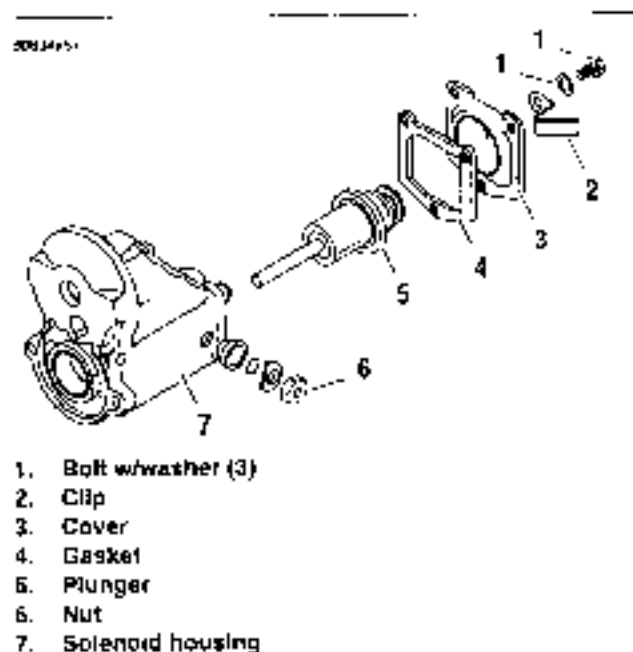

Figure 5-26. Starter Solenoid
See Figure 5-26. Do not tighten nut (6) without removing items 1-5. The contact will move and be destroyed.
1. See Figure 5-26. Remove bolts w/washers (1) and clip (2).
2. Remove cover (3) and gasket (4). Discard gasket.
3. Remove plunger (5) from solenoid housing (7).
1. See Figure 5-26. Replace wire connection hardware as necessary.
2. Apply a light coat of LUBRIPLATE 110 to plunger shaft. Install plunger (5) in solenoid housing (7).
3. Install new gasket (4) onto cover (3).
4. Position cover with gasket onto solenoid housing. Install clip (2) and bolts w/washers (1).